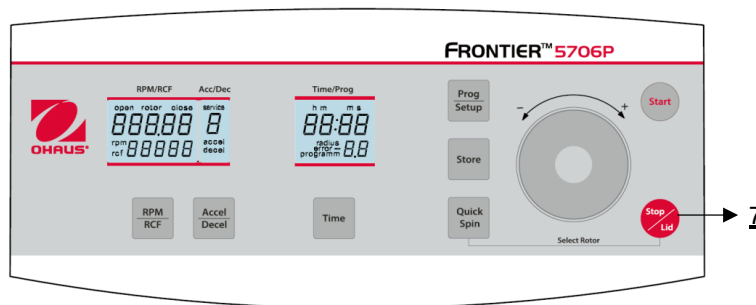

Figure 26
By the "**Stop/Lid**" key (7) (see Figure 26) you can interrupt the run at any time. After pressing the key, the centrifuge decelerates with the respective pre-selected intensity down to stand still.